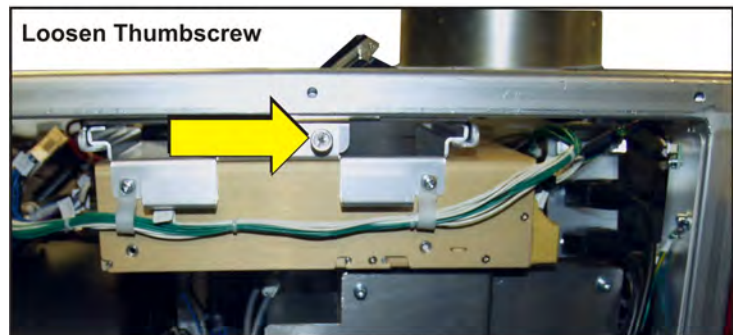

Figure 5-49 Thumbscrew
2. Loosen the thumbscrew. **(Figure 5-49)**